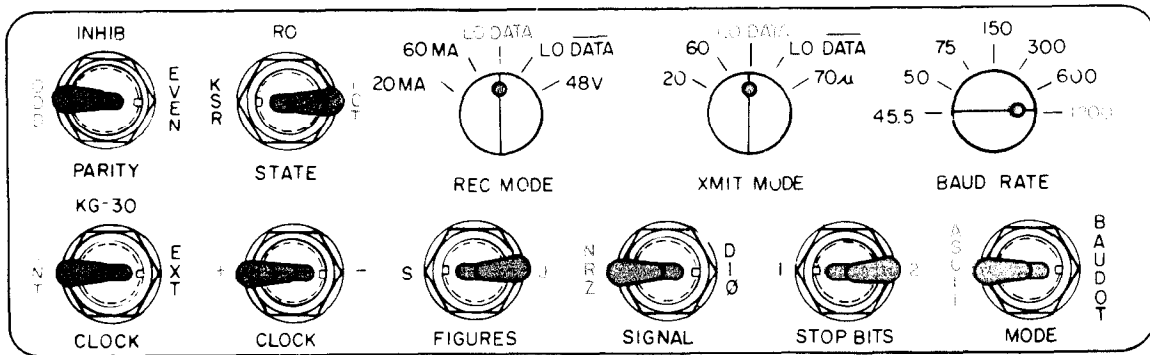

Figure 2-6 INTERNAL CONTROL SWITCHES/SETTINGS
- Because of the capabilities and limitations of each state, the procedures and system controls available to the operator vary. The internal control switches for each of these states are shown in figure 2-6.
- Receive Only (RO) state.